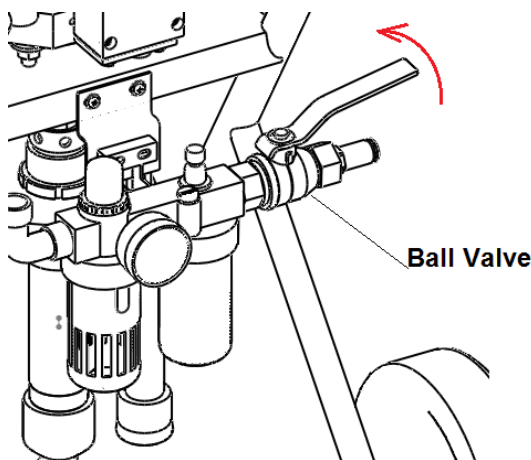

Fig. 2
- Cut off the air supply by closing the ball valve (Refer Fig. 2).